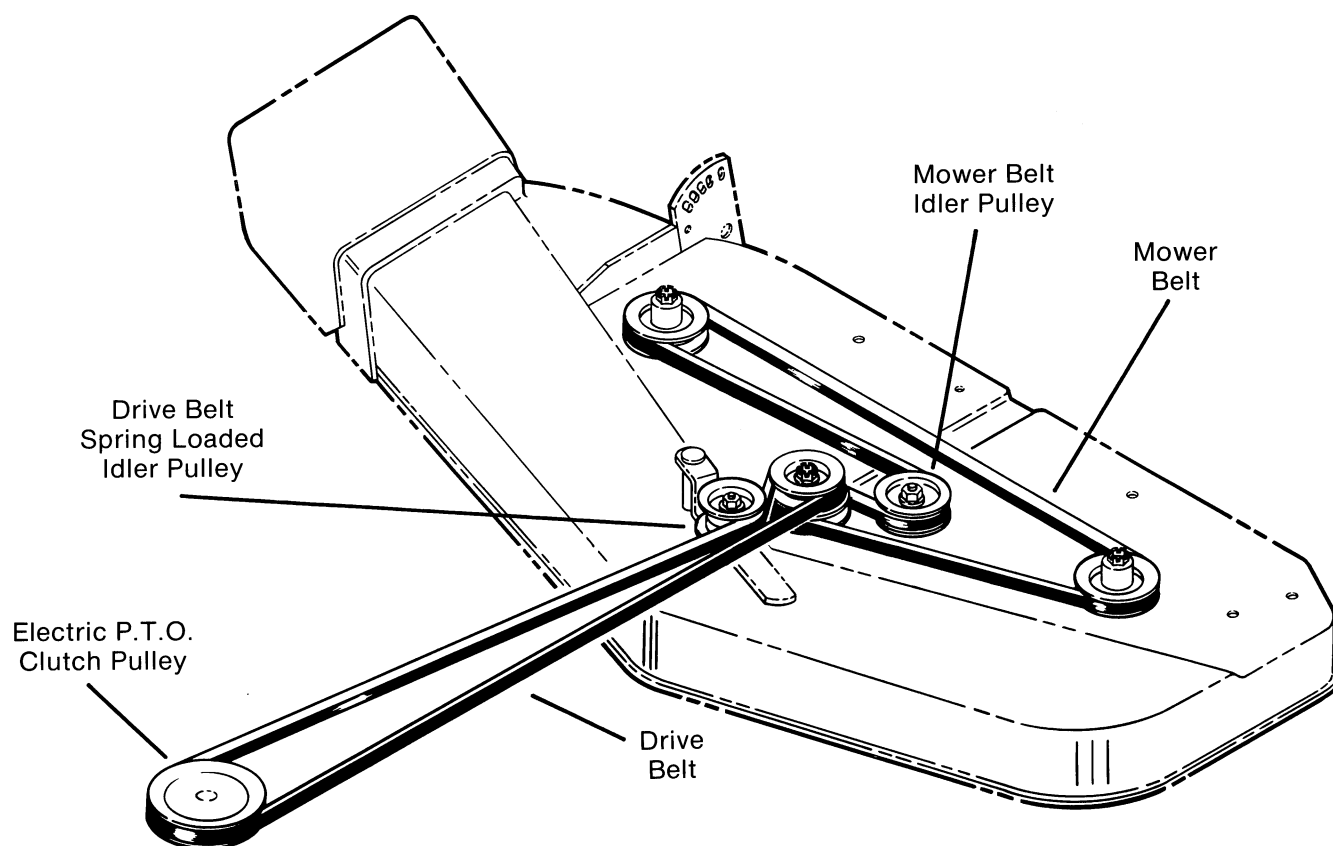

FIG. 17
No adjustment is necessary. This belt is self-adjusted by a spring loaded idler pulley. Periodically check idler arm to be sure it is pivoting freely and providing tension. (Fig. 17)
- B. Push spring loaded idler pulley, on the front of mower deck, to the right to take tension off of the drive belt. (Fig. 17)
- C. Remove drive belt from electric P.T.O. clutch pulley. (Fig. 17)
- E. Remove belt from center spindle pulley and replace with a new belt. Pull spring loaded idler pulley to the right and place belt inside idler (be sure wide side of belt is against idler pulley.) (Fig. 17)
- F. Route belt forward and around electric P.T.O. clutch pulley. (Fig. 17)
- D. Loosen nut on mower belt idler pulley (Fig. 17) and slide idler pulley to the right to relieve tension on mower belt.
- E. Remove old mower belt from all pulleys and replace with a new belt. See (Fig. 17) for proper routing of belt.
- I. Reinstall drive belt onto center spindle pulley. (Fig. 17)
- D. Loosen nut on mower belt idler pulley (Fig. 17) and slide idler pulley to the right to relieve tension on mower belt. Remove mower belt.